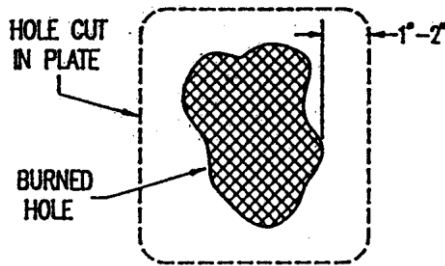

Figure 1A
1. Use cutting torch or arc gouge to remove damaged area. Ensure rounded corners on hole cut out (Fig. 1A).